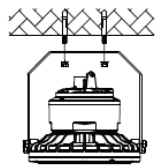
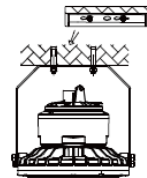

Figure 3
Figure 4
3. Align the bracket with the expansion screws (Figure 3). Install and tighten the nuts to secure the bracket to the mounting surface (Figures 4 & 5).